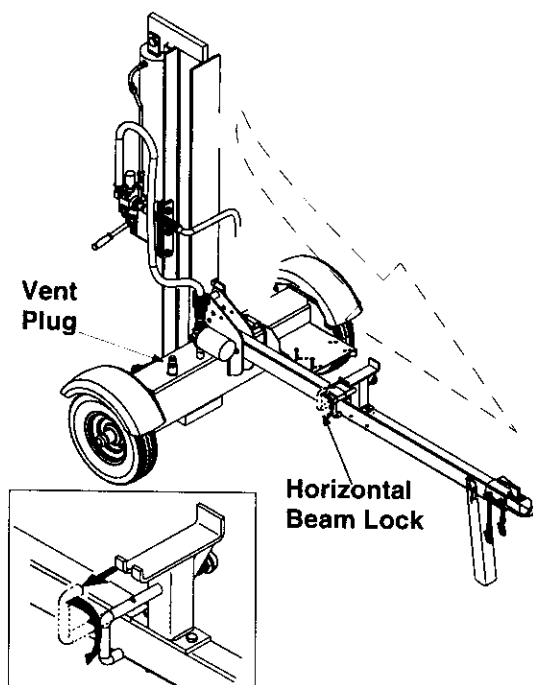

Figure 5
- Lower the beam assembly to its horizontal position. Make certain the beam is locked securely with the horizontal beam lock. See Figure 5.